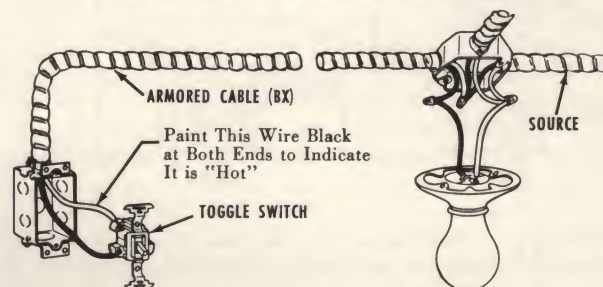

FIG. 54—SWITCH ADDED FOR CEILING FIXTURE
**BLACK AND RED WIRES—"HOT"; WHITE—"NEUTRAL."** One current-carrying "hot" wire and one "neutral" wire must run to every 115 volt current-consuming device. With 2-wire cable, the black wire is "hot"; using 3-wire cable, black wire and red wires are "hot"; the "neutral" wire is always white. To trace current flow, consider wires running from previous outlet as the source and imagine that electricity flows over the "hot" wires, through the current-consuming device and back to the source over the "neutral" wire. "Neutral" wires should always run to current-consuming devices without interruption by a switch or fuse; only "hot" wires are attached to switches. Join black wires to black or red wires—never to white, except at switch loops in cable installations where white wire should be painted black at both ends. (See Fig. 54 on Page 19.) At outlets, connect "hot" wires to dark (brass colored) terminals and white wires to light (silver colored) terminals.
**SWITCH TO OPERATE CEILING FIXTURE.** Cable is commonly used when adding a switch to operate a ceiling fixture. This hookup is a typical example of how black wire may be hooked up to white. This circuit is continuous through the ceiling light to other outlets. This incoming neutral (white) wire runs directly to the outlet, as usual, and continues to other outlets. The incoming black "hot" wire is tapped off to white wire of cable from switch. The black wire of this cable must be connected between the other terminal of switch and black fixture wire. (See Fig. 54.)